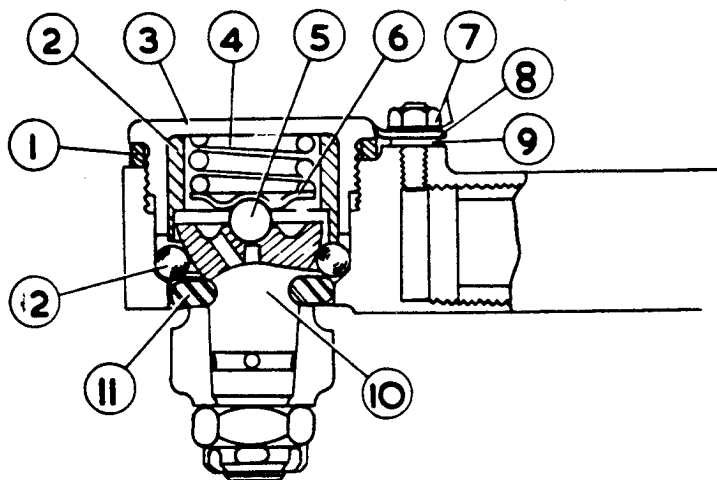
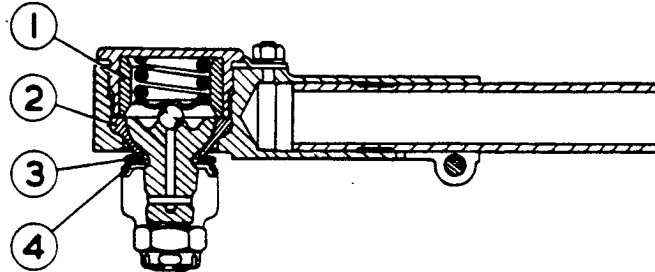

FIG.2. SECTION-SOCKET-SIDE STEERING TUBE FRONT END (PRIOR TO MODIFICATION.)
FIG.3. SECTION-SOCKET-SIDE STEERING TUBE FRONT END
Commencing at Chassis No.B-215-PU steel balls (12 Fig.2) were incorporated in place of the previous bronze seat (2 Fig.3) in the front end socket of the side steering tube to reduce steering friction.
In order to remove the ball end pin (10 Fig.2) connecting the front end of the side steering tube to the centre steering lever, it will be necessary to remove the centre steering lever unit from the frame complete with levers and the side steering tube. Proceed as follows:-
- (i) Remove the rubber seal (11 Fig.2) from the groove in the ball pin.
- (ii) Remove the nut and spring washer, (7), the locking plate (8), the plain washer (9), and with a 'C' spanner, remove the cap nut (3).
- (iii) Remove the joint ring (1) from the cap nut, the sleeve (2), the spring (4), the spring pad (6), the ball (5), the ball pin (10), and finally the steel balls (12). Items 1, 2, 9, 11 and 12, should be discarded. The sleeve (2) is replaced by the sleeve RF-3561. Clean the remaining dismantled parts.
- (iv) Re-assemble the ball joint, using the new parts as illustrated in Fig.3, and refit to the centre steering lever.
**NOTE:** When it is found that the ball end pin (10 Fig.2) of the front socket has been grooved or pitted by the steel balls, a new pin FW-1000 (included in the list of parts on Page 1) should be fitted.